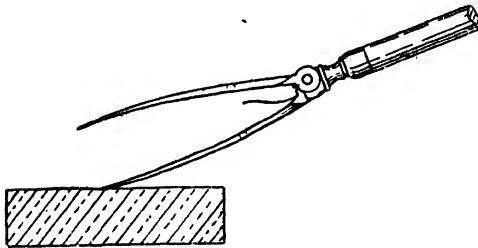

Fig. 233.—Setting Drawing Pen on Oilstone.
**Setting Drawing Pen.**—By taking out the screw of the ruling pen and looking directly at the point of the pen, it will be seen whether the worn point has a flattened surface. If so, place the pen on an oilstone (fine Turkey preferred) in the position shown in Fig. 233, apply a little oil, and move the pen backwards and forwards, at the same time slightly rocking it horizontally and vertically. Wipe and examine the pen occasionally, and stop just short of bringing the point to a sharp edge. If one point of the pen has been injured and is shorter than the other, hold the pen upright on the stone and grind both points level before